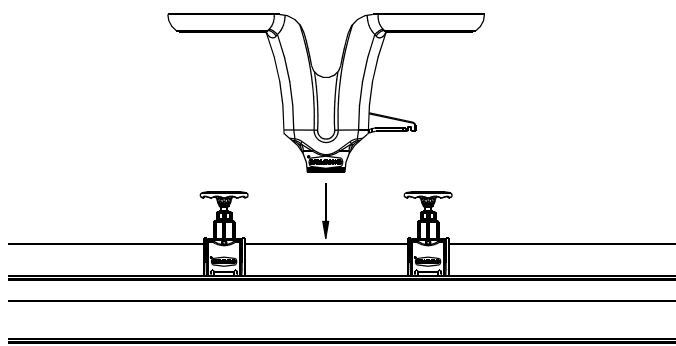

Figure 10. Cup Location
3. Turn pipe assembly over and install cup over the water pipe. The cup is to be located between a pair of saddle assemblies, see **figure 10**.